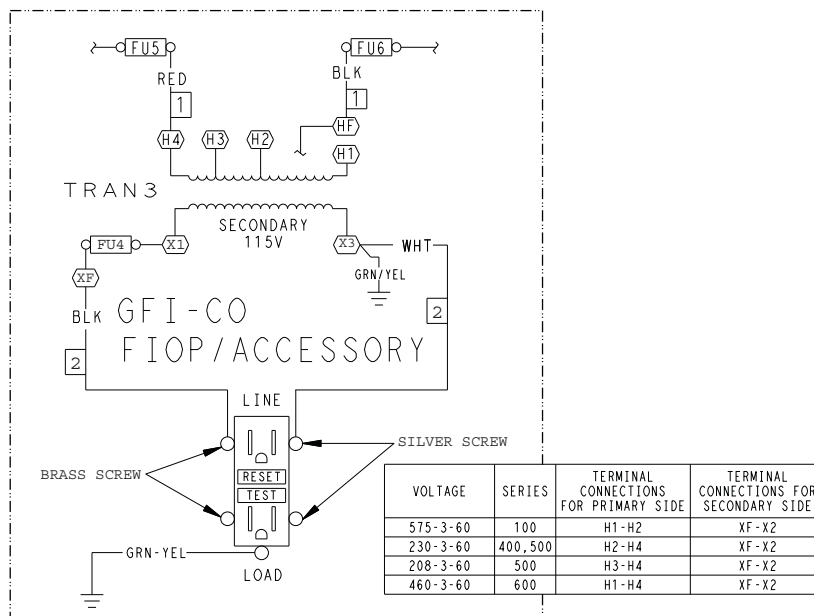

Fig. 4 — Accessory Convenience Outlet Wiring
outlet, reconnect the unit power and retest the outlet. See Fig. 4.
11. Test the GFI-CO by pressing its “Test” button and checking for power at the outlet. If the accessory is incorrectly wired, the GFI-CO may not trip and power may be present at the outlet. If power is present, disconnect all power to the unit, correct the accessory wiring by reversing the power and neutral wires from the transformer to the outlet, reconnect the unit power, and retest the outlet. See Fig. 4.